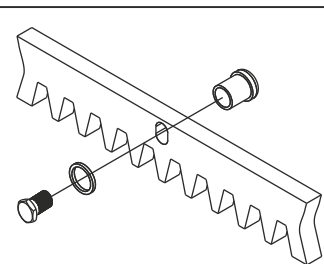

Fig. 6
**5.2.** Fix on each gear rack element the support pawls with the appropriate lock screws, making sure to put them in the upper part of the hole (Fig. 6) ;